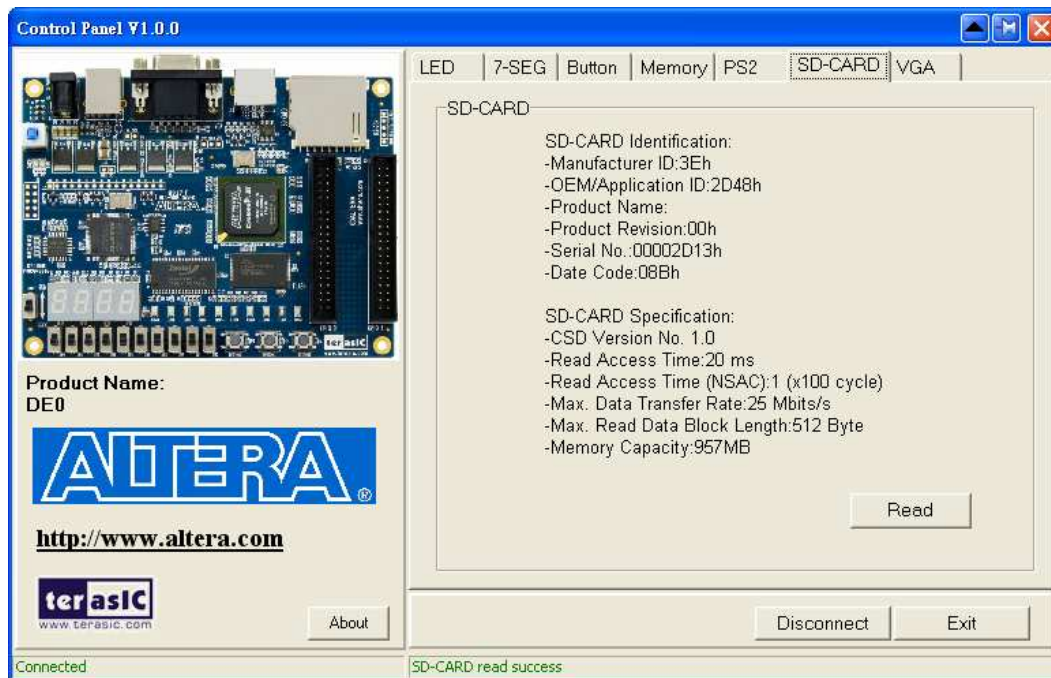

Figure 3.9. Reading the SD card Identification and Specification
1. Choosing the **SD-CARD** tab leads to the window in Figure 3.9.